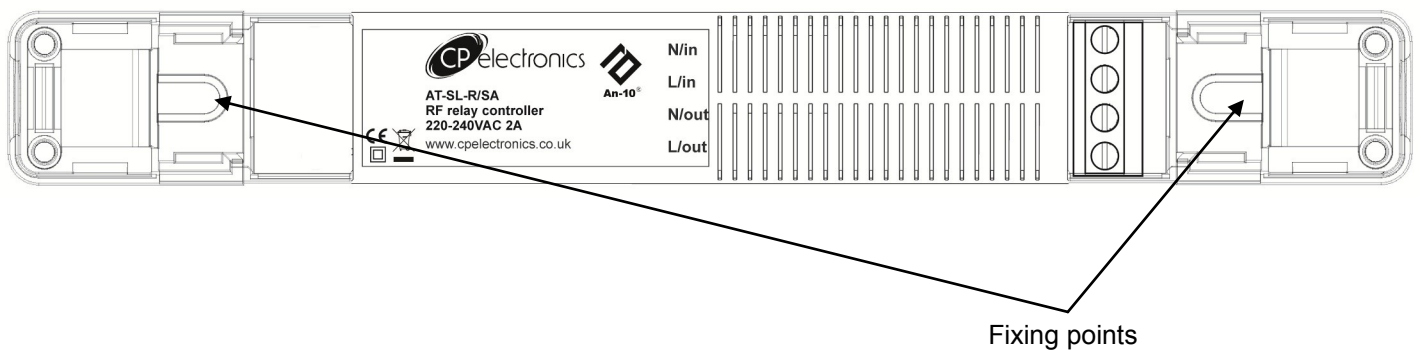

Fig 7: AT-SL-R-SA mounting
- Affix the AT-SL-R-SA using the fixing slots shown in the diagram below (Fig. 7). The fixing slots are suitable for M4 screws.
- Ensure that the main cable sheathing is over the cable clamp area (Fig. 7).